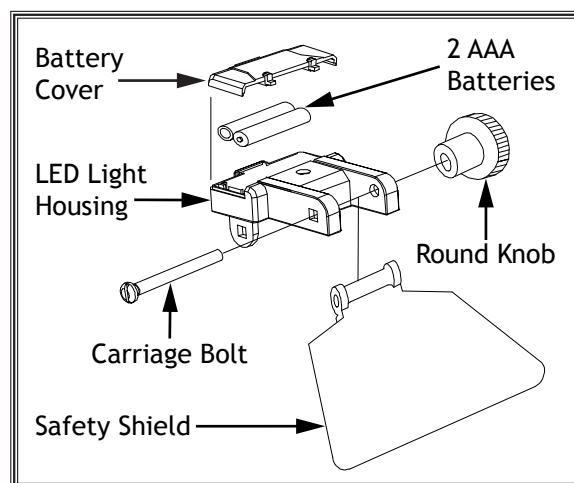

Figure 9. LED light housing and safety shield components.
1. Remove battery cover from each LED light housing and install (2) AAA batteries in each (see **Figure 9**).
2. Attach (1) safety shield to each LED light housing using (1) pre-attached M5-.8 x 55 carriage bolt and (1) M5-.8 round knob (see **Figure 9**).